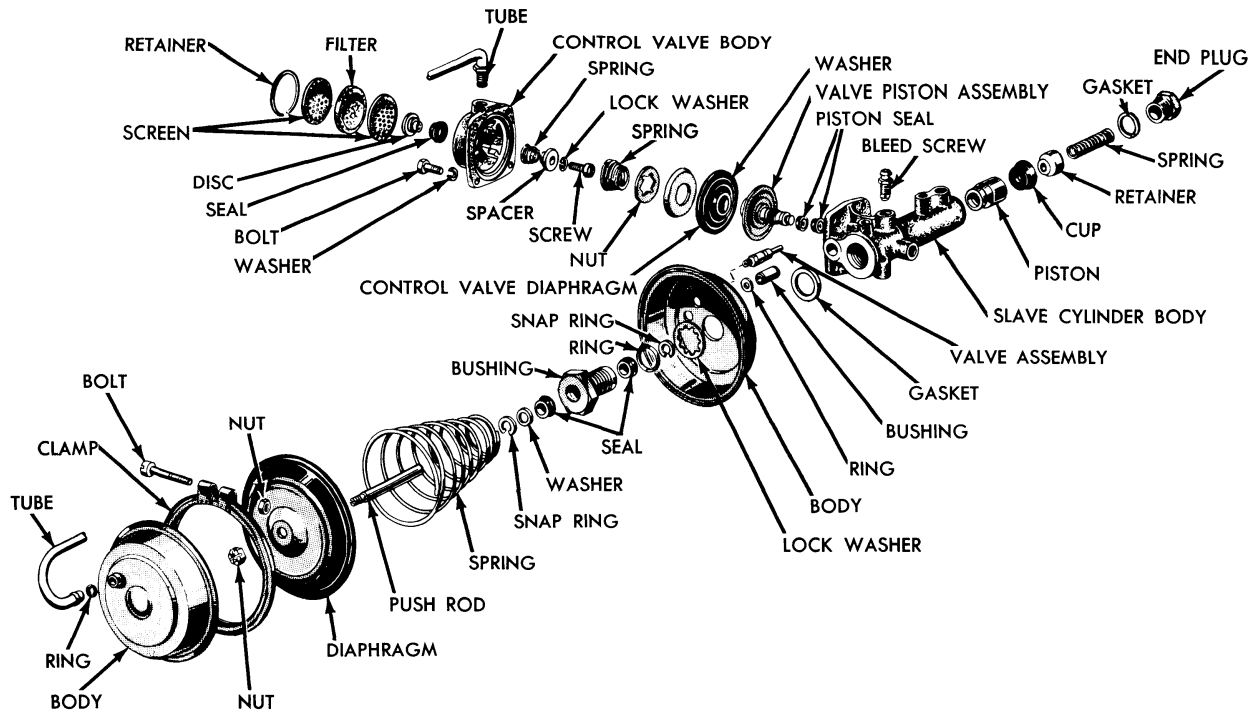

Fig. 15—Vacuum Booster—Disassembled
(2) **DISASSEMBLY.** Remove the control valve by-pass tube from the booster assembly (fig. 15). Remove the control valve body, diaphragm spring, and the control valve piston and diaphragm assembly from the slave cylinder body.
Remove the push rod bushing and the inner section of the power chamber from the slave cylinder. Remove the end plug from the slave cylinder, and remove the gasket, piston spring, and retainer (fig. 15). Remove the slave cylinder piston and the rubber piston cup from the slave cylinder.
(4) **ASSEMBLY.** Install the check valve in the fitting (fig. 15). Position the diaphragm on the control valve. Position the retaining plate and install the clip on the control valve diaphragm. Install the inner and outer seals on the control valve shaft. Install the control valve disc seal in the control valve housing. Install the valve disc, spacer, and spring in the control valve housing, then tighten the fastening screw.